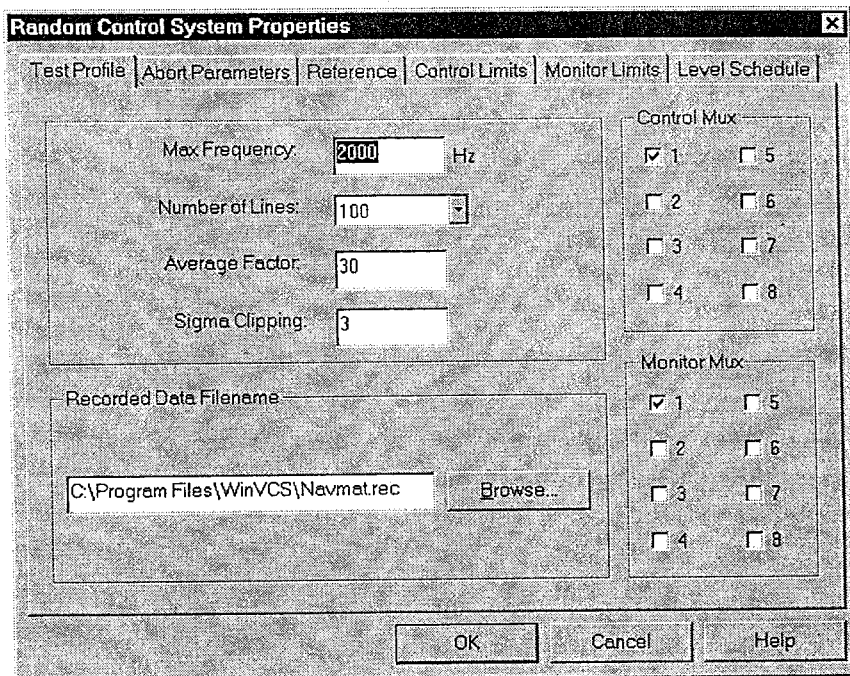

Figure 3-14. Random Control System Properties Window.
2. Select the Test Options command from the Options window. WinVCS opens the Random Control System Properties window. See Figure 3-14. This window provides access to all the displays used to define a Random mode test.